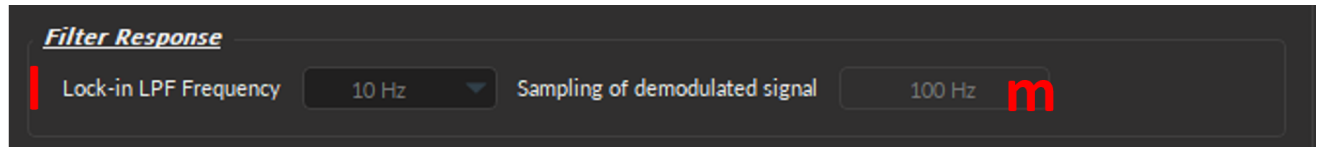

Figure 11.88: Lock-In, Filter Response
- l) The **Lock-in LPF Frequency** (Fig. 11.88, l) defines the **Cutoff Frequency** of the low-pass filter that extracts the signal and is set to 10 Hz by default. This value was selected because, in photometry experiments, the most significant noise source to the filter is around the carrier frequency above 200 Hz.
- m) The **Sampling of demodulated signal** (Fig. 11.88, m) is by default set to 100 Hz, and effectively serves as a 100x decimation. This value was selected because photometry signals are slow (>1 sec) and does not require such a high sampling resolution.